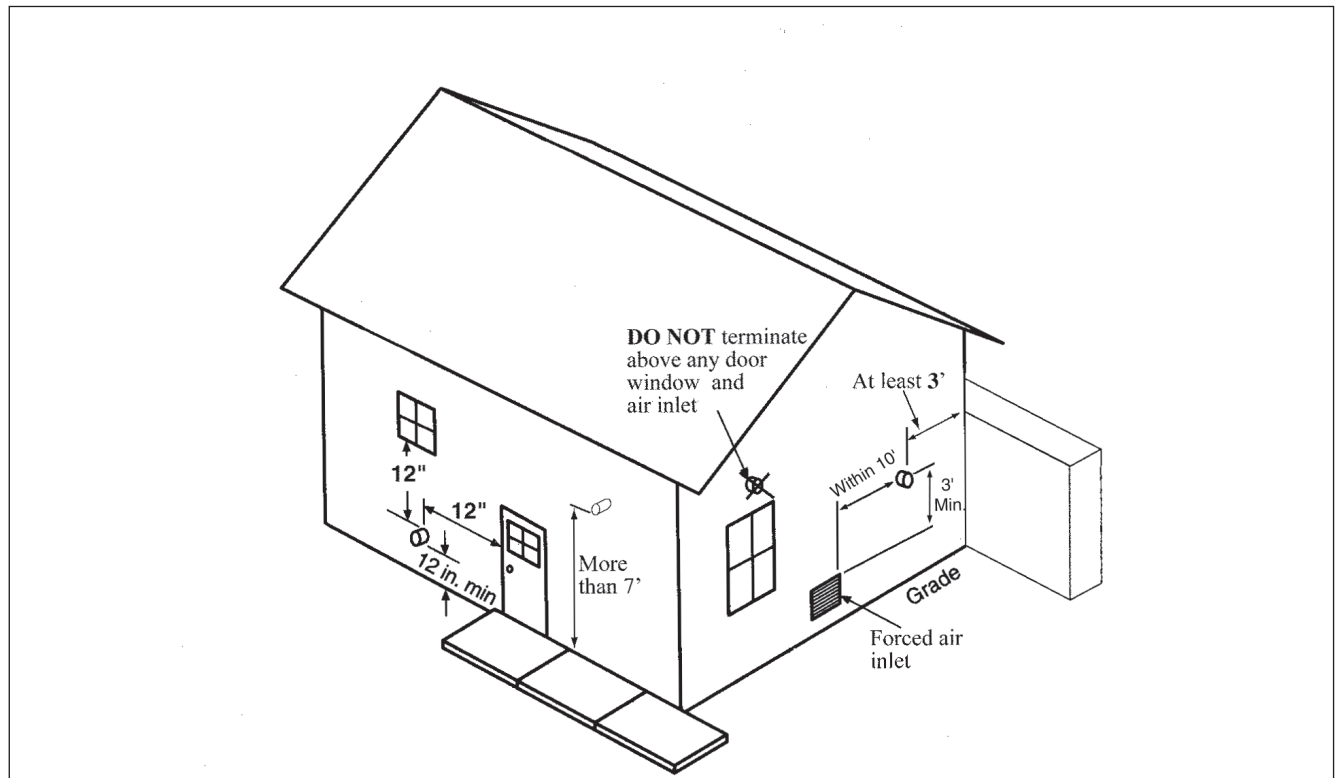

Fig. 2 - Termination Clearances of Direct Vent System
6. The vent termination must also maintain the following clearances, as shown in *Fig. 2 on page 15*:
6. The vent termination must also maintain the following clearances; as shown in **Fig. 2 on page 15**.